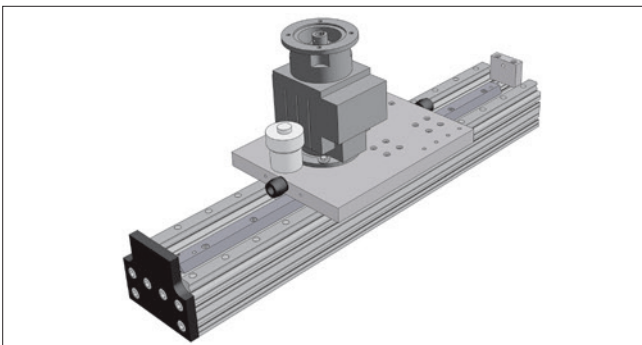

Figure 5.18 \_\_ AXS Lifting Axis with rack and pinion drive
- Lifting Axis for moving to loads in excess of 1000 kg (Figure 5.18)